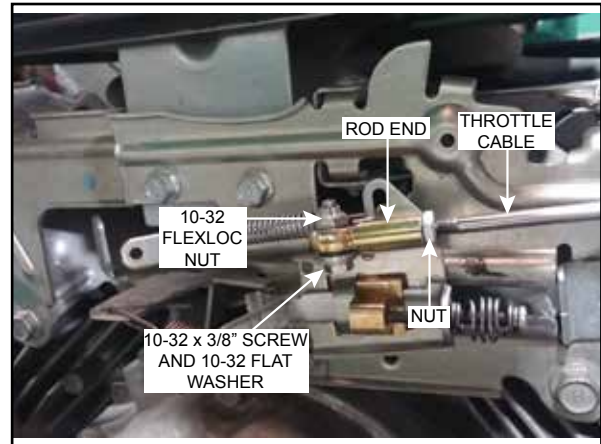

Figure 16. Throttle Cable/Rod End Installation
- Install the rod end completely on the cable, and tighten the jam nut as shown in Figure 16.